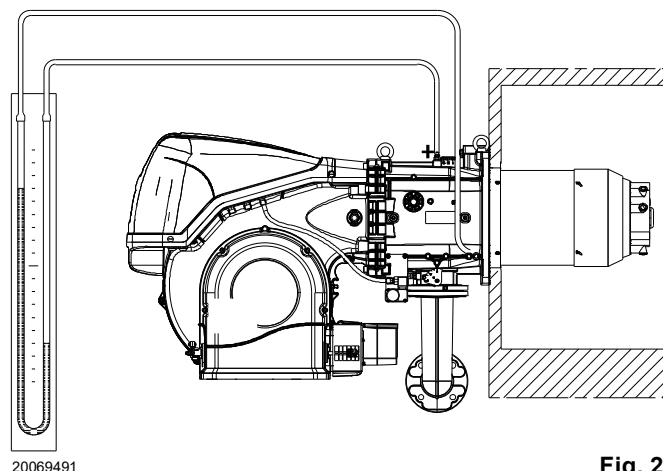

Fig. 23
- Fit a U-type pressure gauge or a differential pressure gauge (Fig. 23), with socket (+) on the gas pressure of the pipe coupling and (-) in the combustion chamber. The manometer readings are used to calculate MAX burner output using the Tab. M.
The arrival of gas at the pipe coupling is indicated by the U-type pressure gauge (Fig. 23 on page 29).
As an indicative guide it can be taken from Tab. M on page 26, just read the gas pressure on the pressure gauge (shown in Fig. 23 on page 29) and follow the instructions given on page 26.